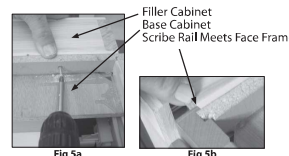

Fig 5a
Step 4. Mount filler cabinet pullout to adjacent cabinet See Fig. 5a-b